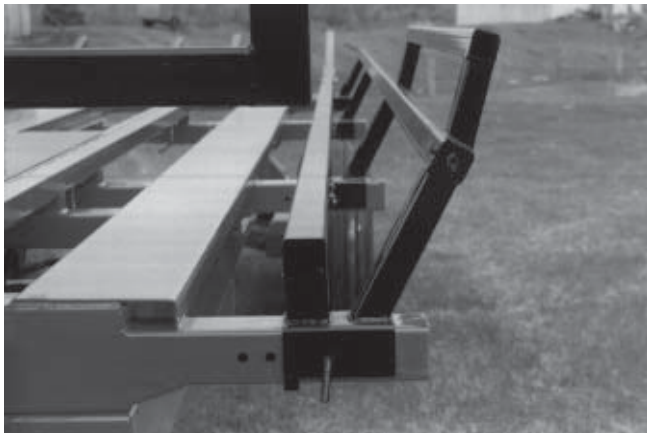

Figure 13
- 1) Adjust the side rails position according to the bale size and configuration (Figure 13). This adjustment is to prevent the rocking of the bales from side to side during transportation.